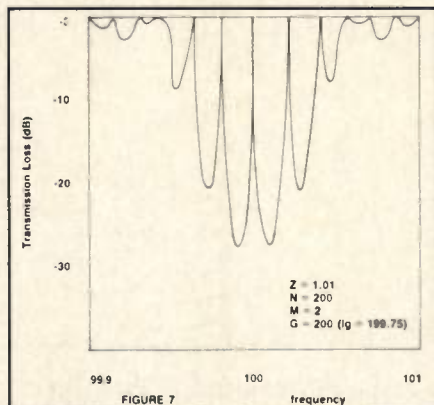

FIGURE 7
Another interesting case is worth mentioning before we move on to more complicated structures. If we obey the Fabry-Perot condition of Eq. (1), but make n very large, we encounter a regime in which several longitudinal modes of the cavity can exist, all at slightly different wavelengths (frequencies). This is precisely the case for lasers. A simple laser with two mirrors will have many possible longitudinal cavity modes because the cavity is orders of magnitude larger than wavelength. Special techniques are used to lock the laser into a single mode for added spectral purity. Figure 7 shows some examples of multiple resonances due to oversized cavities.
Knowing the value of D is important for determining the frequency spacing between longitudinal modes in the resonant cavity formed by the two arrays. Now we can see that mode spacing is a function of both cavity size and reflective properties of the array, as represented by the distance D . It is possible to derive frequency spacing dependence on effective length of the cavity L , and such derivations abound in books on lasers. The reader is encouraged to do this for the specific case shown in Figure 7. You will indeed find that the mode spacing observed in large SAW resonator cavities,